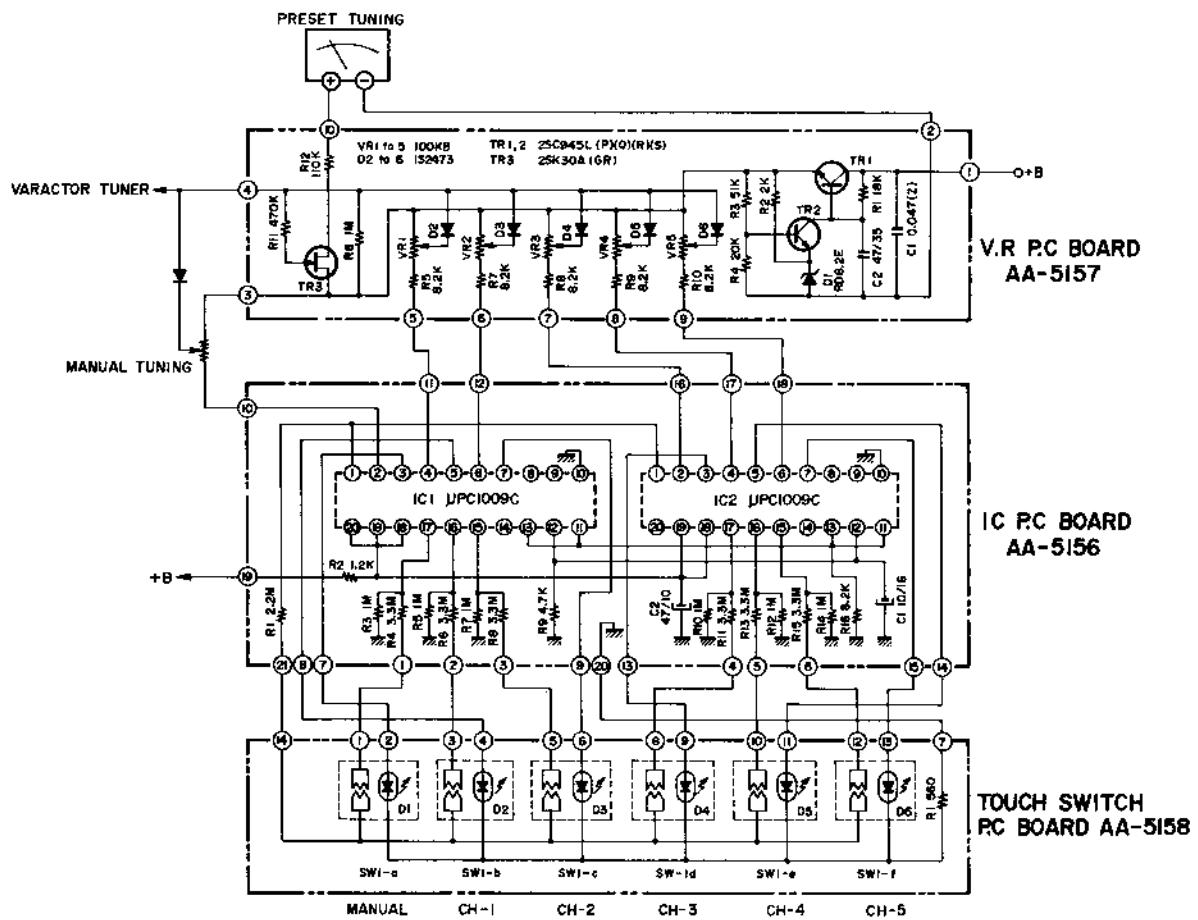
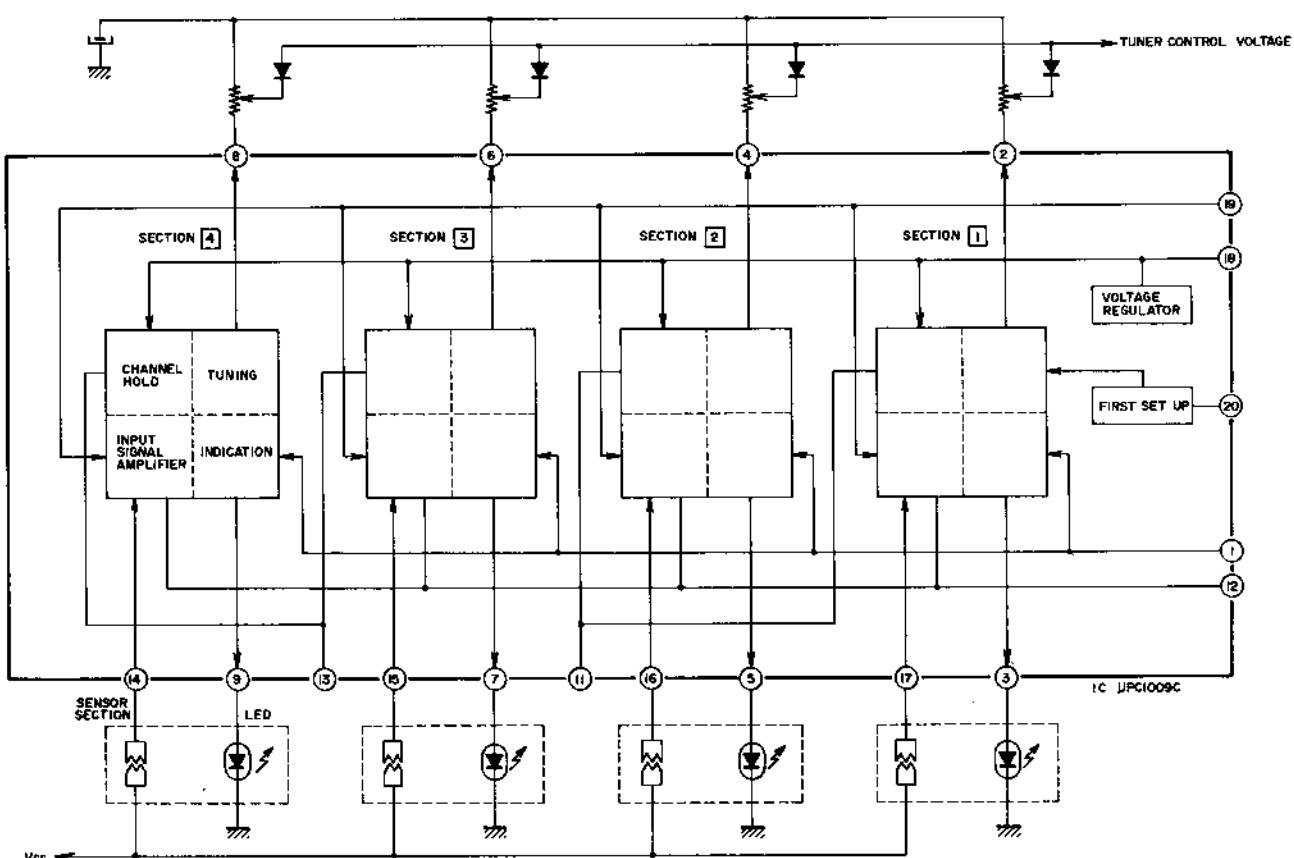
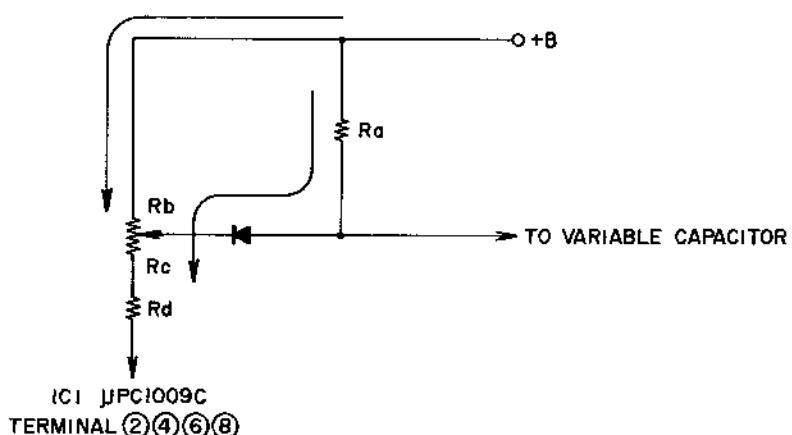

Fig. 7
Fig. 8
Fig. 9
The circuit shown in Fig. 7 is the control voltage generating preset volume and sensi-touch circuit. Fig. 8 shows the inside of circuit sensi-touch IC  $\mu$ PC1009C which include the 4 channel circuitry. Terminals 14 through 17 are the input terminals; terminals ②, ④, ⑥, and ⑧ are the station selection output terminals; and terminals ③, ⑤, ⑦, and ⑨ are the pilot output terminals. When channel 1 sensor electrode is touched, voltage is supplied to the IC as the input signal through finger (body) resistance at terminal ⑯. Then, the impedance is lowered at IC station selector output terminal ② and current flows as shown by the arrow marks in Fig. 9. Consequently, because the supply voltage to the varactor tuner diode is changed by the dividing ratio of  $R_b$  and  $R_c$ , station selection is possible by means of setting the preset volumes beforehand according to the desired broadcast frequencies.